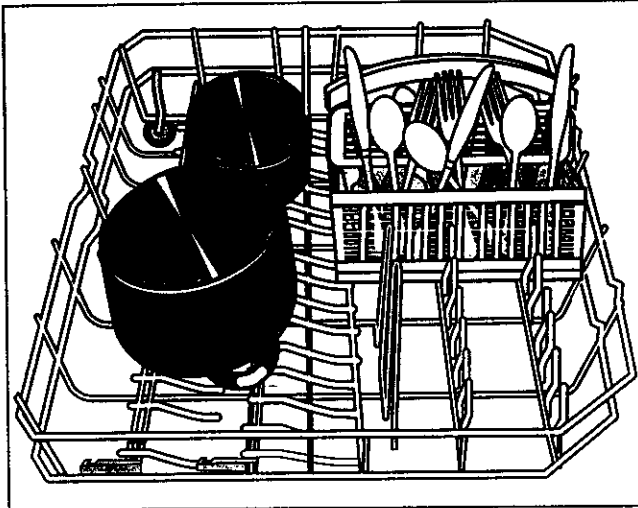

Figure 5.
- The DLX series dishwashers (SHU 3012 UC and SHU 3016 UC) come with a lower rack that has two sets of flipped down tines. With these models, if more space is needed for pots and pans, the rear two sets of tines can be folded to the down position. Figure 5 shows the lower basket with the rear sets of tines in the down position to accommodate large pots.